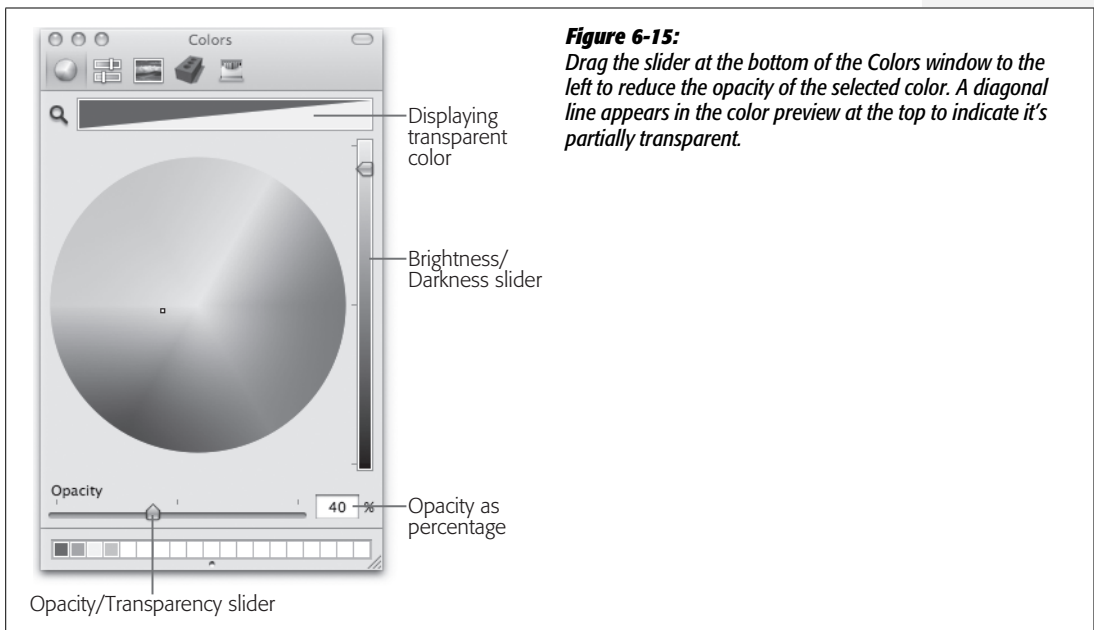

Figure 6-15:
5. Select a light blue color, and then set the opacity/transparency slider to about 40 percent, as shown in Figure 6-15.